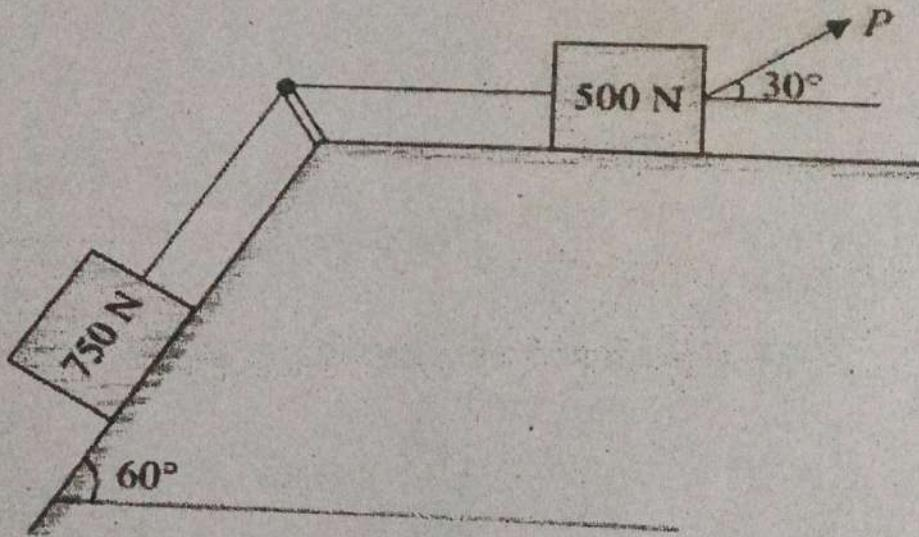

Fig. 4
- 10. What is the value of P in the system shown in Fig. 4 to cause the motion to impend. Assume the pulley is smooth and coefficient of friction between the other contact surfaces is 0.2.